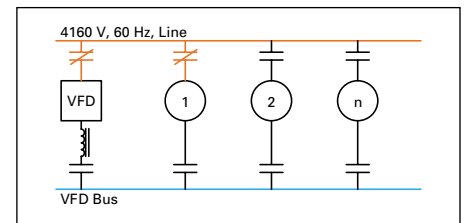

Figure 10.4-17. Motor #1 on Bypass
- VFD opens drive output contactor (Figure 10.4-17)